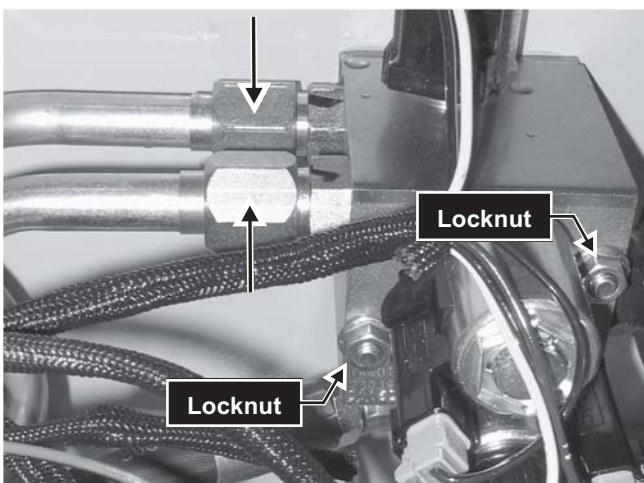

Fig. 8-100 Location of two hydraulic tubes attached to straight fittings on the accumulator manifold.
3. Remove two hydraulic tubes from straight fittings on the manifold. **Fig. 8-100**